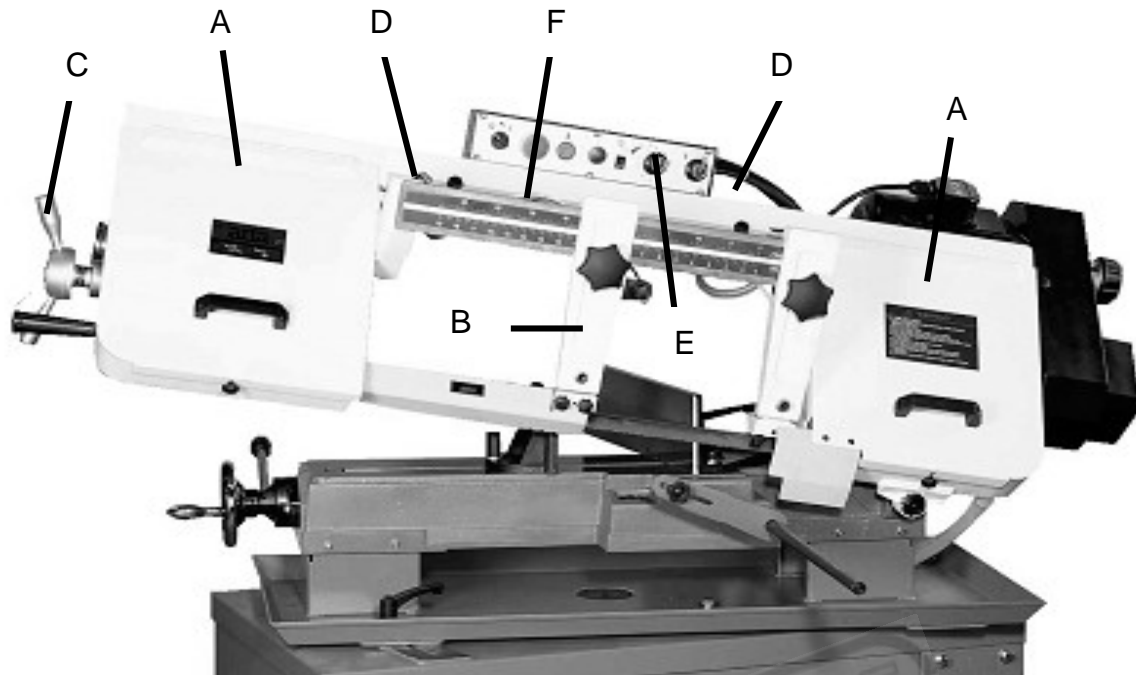

Fig. 21
2. Raise the saw frame about 6" and close the feed on ioff knob (E) Fig 21, by turning it clockwise as far as it will go."
3. Move the blade guide arm (B) to the right, as shown in Fig. 21.
4. Loosen two screws (D) and open upper blade guard (F) Fig. 21.
5. Open both wheel covers (A) Fig. 21, and clean the swarf out of the machine
6. Release blade tension by turning the blade tension handwheel (C) Fig. 21. Counterclockwise.